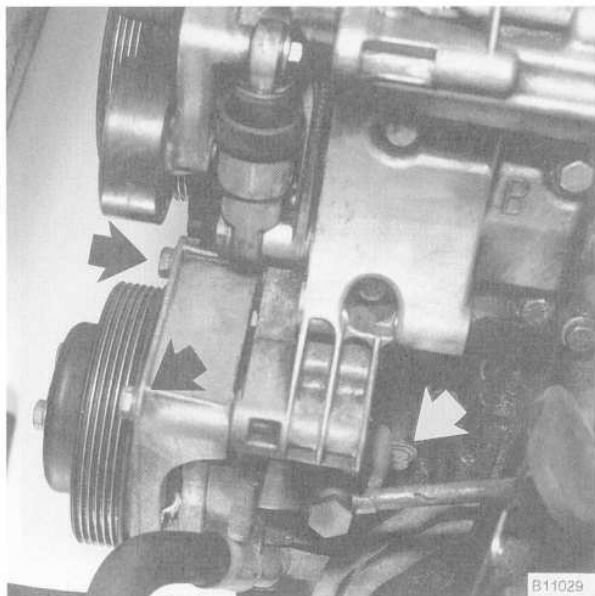

Fig. 23. Power steering pump mounting bolts (arrows).
- 26. Remove the power steering pump from its mounting bracket. See Fig. 23. Use stiff wire to hang the pump from the body.